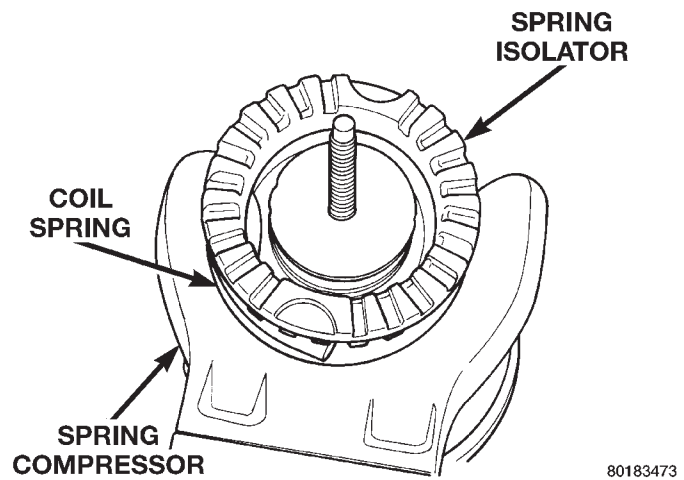

Fig. 57 Coil Spring Isolator
(8) Remove the spring isolator (Fig. 57) from the coil spring.
(8) Install the isolator on the top of the coil spring. Isolator must be installed with the two half circle formations in the isolator facing up (Fig. 57).